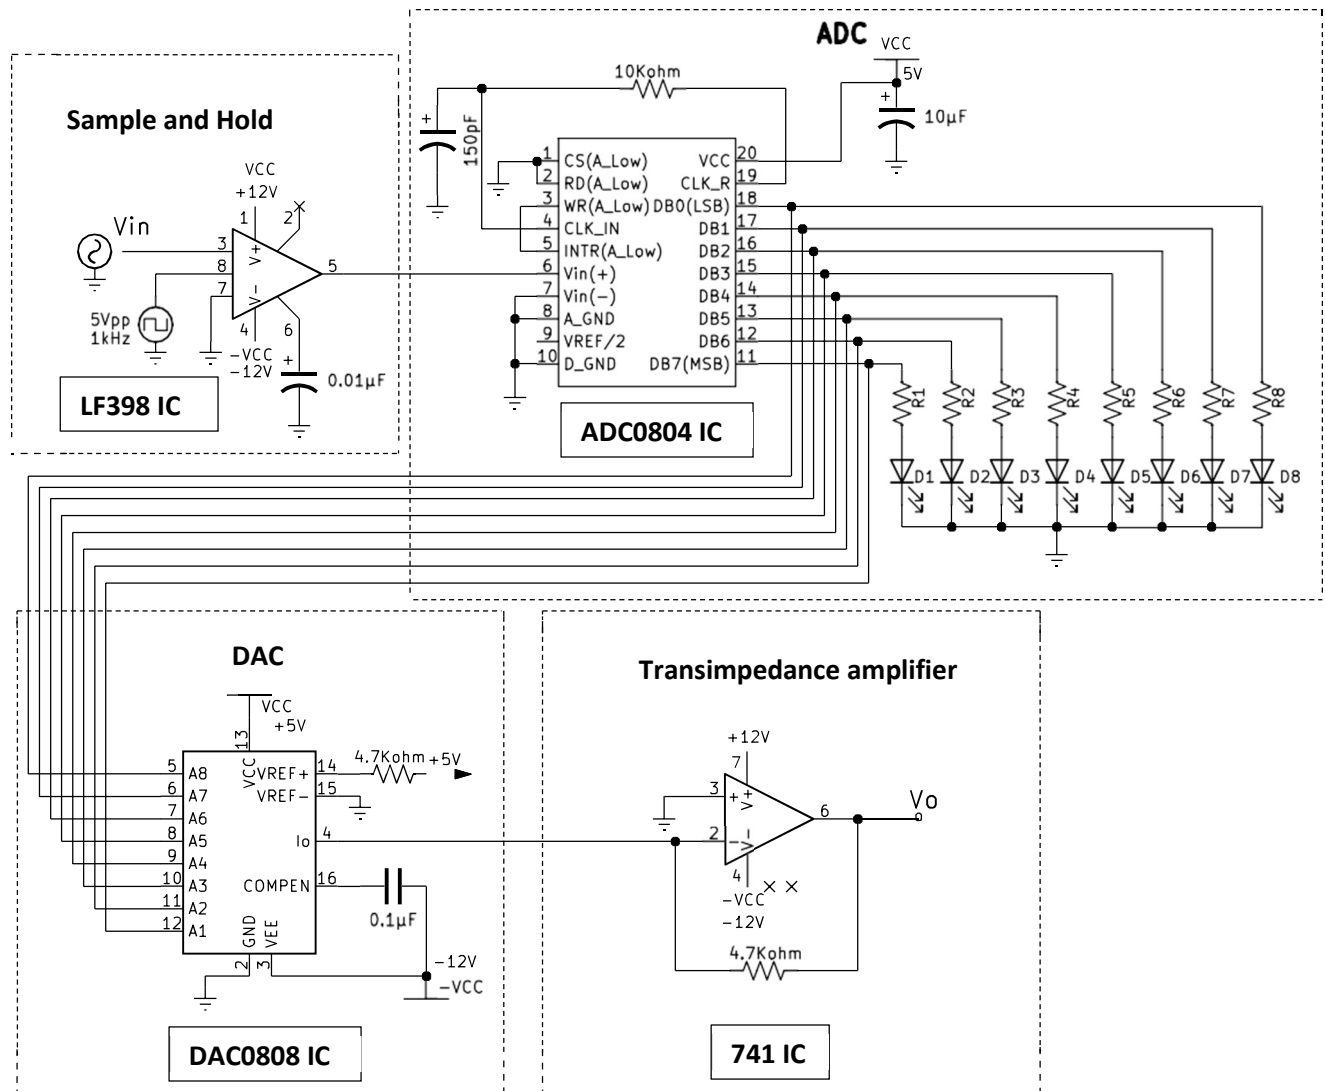

Fig.2: Circuit for ADC-DAC with sample and Hold
Complete circuit diagram for the ADC –DAC circuit with sample and hold is given in Fig.2. It consists of four parts
5. In step5, connect individual circuits to make complete circuit as in Fig.2, choose sine wave of 10 Hz with approximately 1 Volt V_{p-p} as input frequency and clock as 1 KHz square wave 5 volt V_{p-p} . Observe that input is reproduced as output. Record the same by taking pictures.